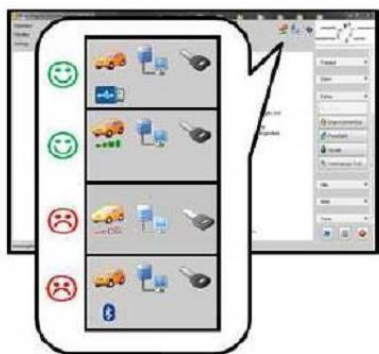

Figure 4: Example of the information icons when there is sufficient or insufficient signal via WiFi / Bluetooth.
- If the WiFi signal is not strong enough a note is displayed (see Figure 4), and the USB cable must be used.